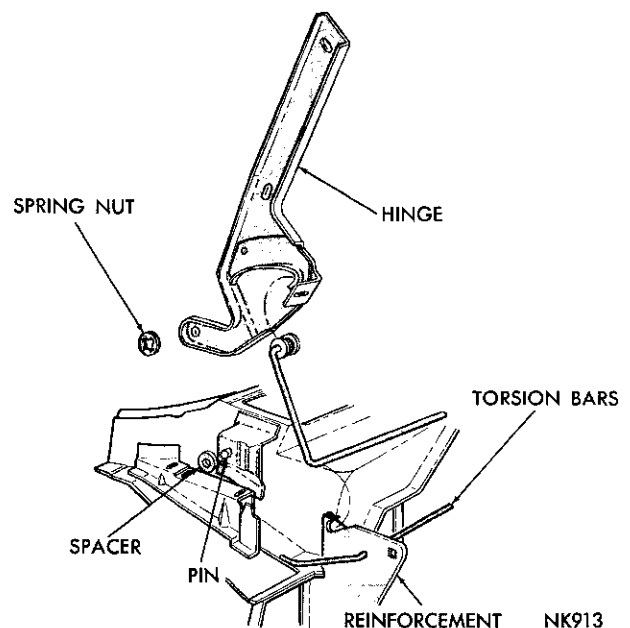

Fig. 48—Hood Hinge Replacement
Hood Hinge Replacement (Fig. 48) (Chrysler)
- (1) Remove the windshield lower moulding windshield wiper arm and blade assemblies and the cowl grille panel.
- (2) Disengage the torsion bar roller from the hood hinge.
- (3) Scribe the hinge location on the hood and remove the hinge-to-hood screws.
- (4) Support the hood at the hinge area.
- (5) Remove the hinge spring nut and hinge from the pivot (Fig. 48).
- (6) Lubricate the hinge pivot area with lubriplate and position the hinge on the pivot.
- (7) Install the spring nut on the pivot using a screwdriver.
- (8) Remove the hood support and position the hinge on the hood.
- (9) Install the hinge-to-hood screws. **DO NOT TIGHTEN.**
- (10) Engage the torsion bar roller with the hood hinge.
- (11) Install the grille cowl panel, windshield wiper arms and blades, and the windshield lower moulding.
- (12) Inspect hood alignment and adjust as necessary. Tighten the hood-to-hinge screws.